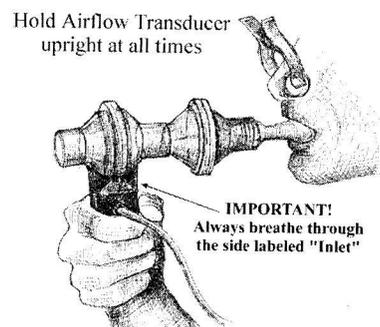

Fig. 12.17 Keep Airflow Transducer upright at all times
- d) Keep the Airflow Transducer upright at all times (Fig. 12.17).